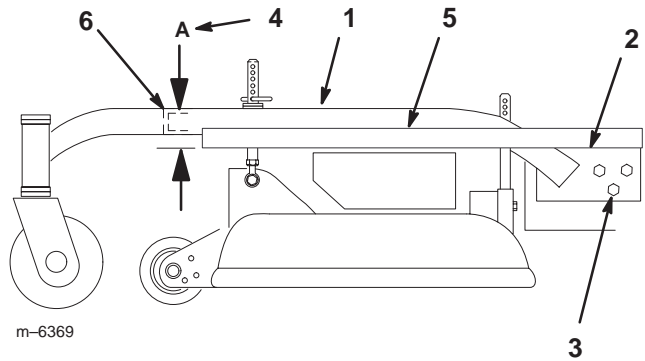

Figure 54
3. Place a long straight edge on top of the engine deck as shown in figure 54.
4. At the carrier frame cross tube, measure location **A** height (Fig. 54). This measurement must be 1–5/16 inch (33 mm), plus or minus a 1/4 inch (6 mm).
6. Loosen the carrier frame mounting bolts on both sides of the machine (Fig. 54).
7. Align the carrier frame and engine deck to match 1–5/16 inch (33 mm), plus or minus a 1/4 inch (6 mm) at location **A** (Fig. 54).